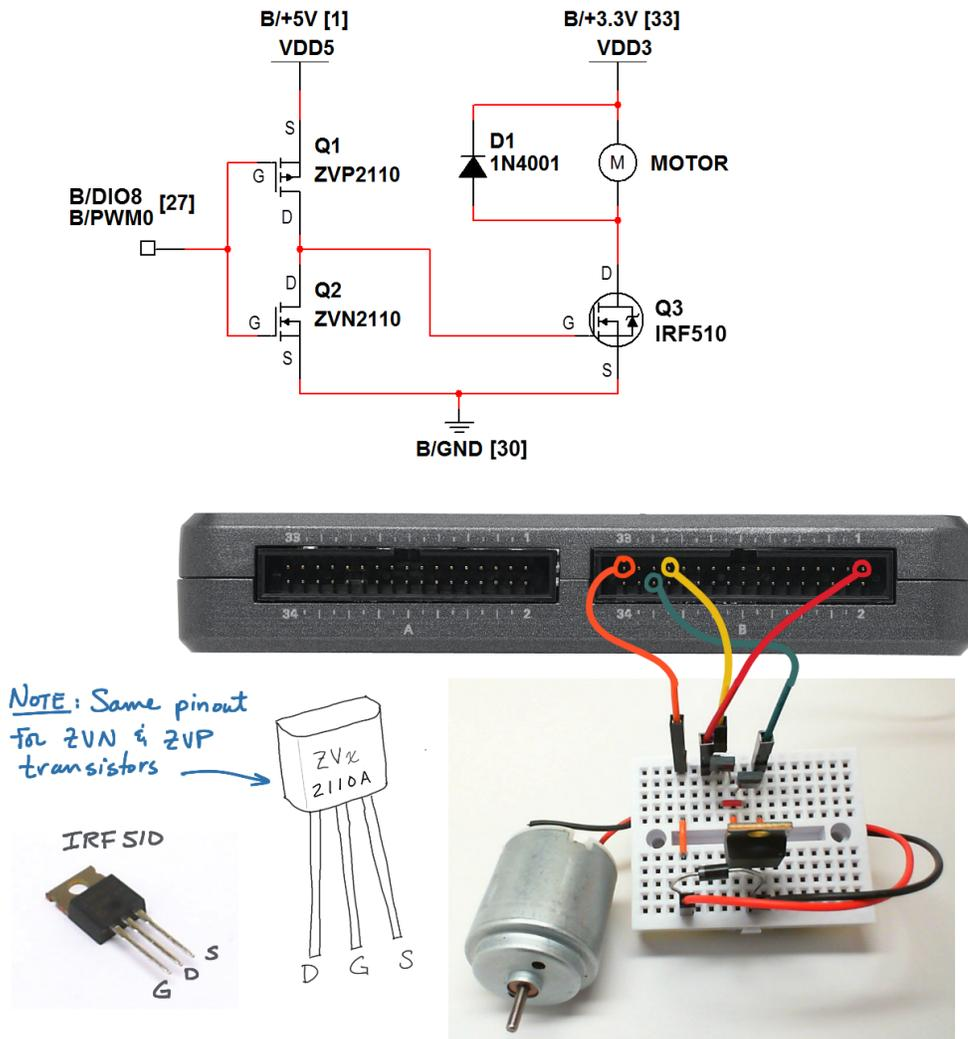

Figure 12.2: Demonstration circuit for DC motor: schematic diagram, recommended breadboard layout, and connection to NI myRIO MXP Connector B.
**Build the interface circuit:** Refer to the schematic diagram and recommended breadboard layout shown in Figure 12.2 on page 57. The interface circuit requires four connections to NI myRIO MXP Connector B: